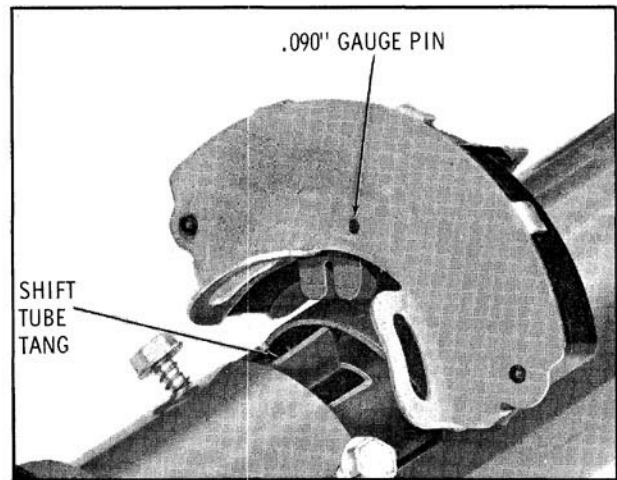

Fig. 13-101 Neutral Safety Switch Adjustment
4. Align the slot in the contact support with the hole in the bracket and insert a .090" pin. (Fig. 13-101 and 13-102)